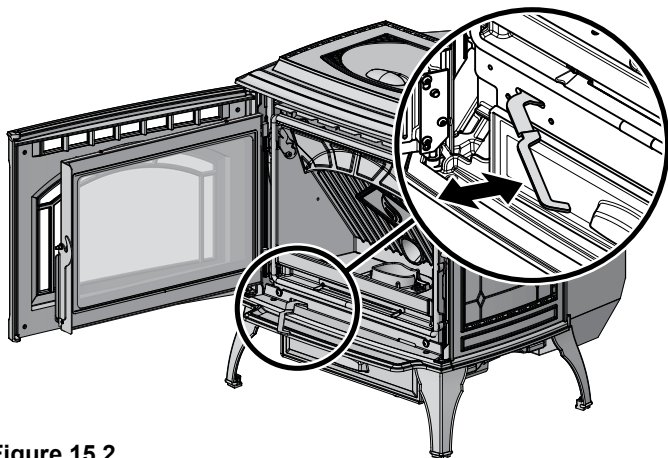

Figure 15.2
- c. Pull fire pot floor cleaning lever two times until the ash falls into the ash pan below (**Figure 15.2**).